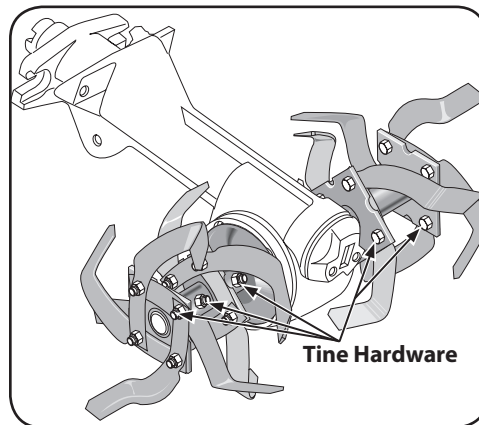

Figure 5-4
- Check the four bolts and nuts securing left and right tine holders to the tine shaft. See Figure 5-4.